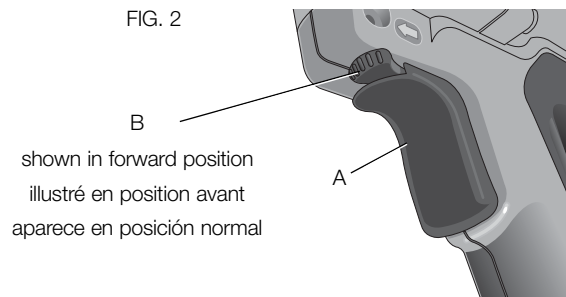

FIG. 3
- Grasp the black sleeve of the chuck (D) with one hand and use the other hand to secure the tool. Rotate the sleeve counterclockwise far enough to accept the desired accessory (Fig. 3).